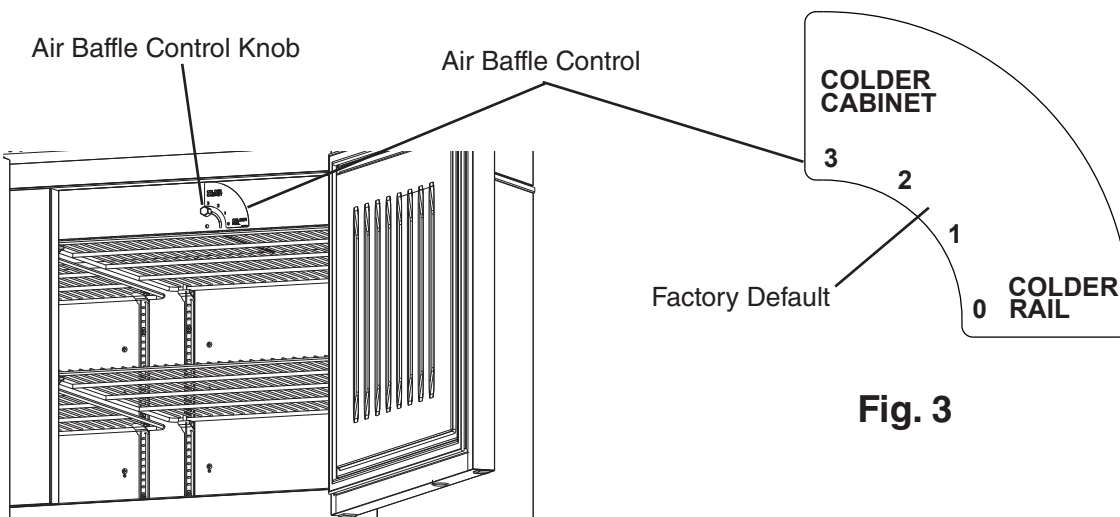

Fig. 3
- 2) To adjust the air flow balance between the rail and cabinet, slightly unscrew the air baffle control knob located inside the cabinet. See Fig. 3. Move the air baffle control clockwise to direct more air flow to the rail or counter-clockwise to direct more air flow to the cabinet. Once the desired position of the air baffle is attained, re-tighten the air baffle control knob to prevent inadvertent movement of the baffle during operation of the appliance.